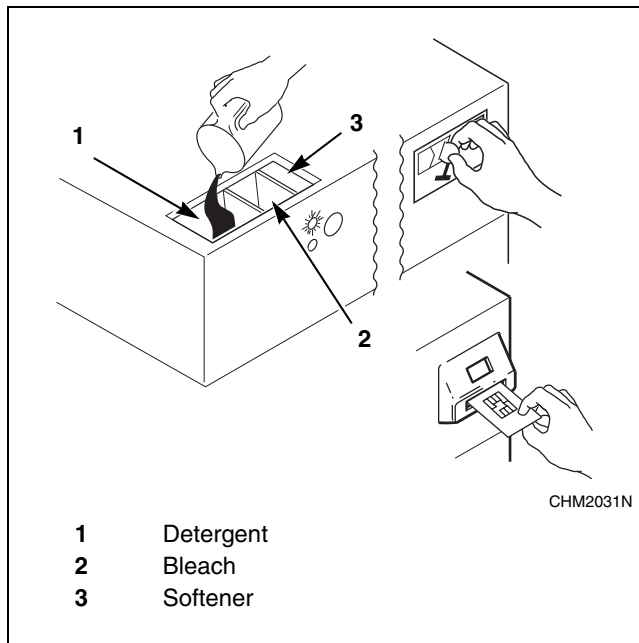

Figure 9
8. Add liquid and/or powder supplies to supply dispenser. Refer to *Figure 9*.